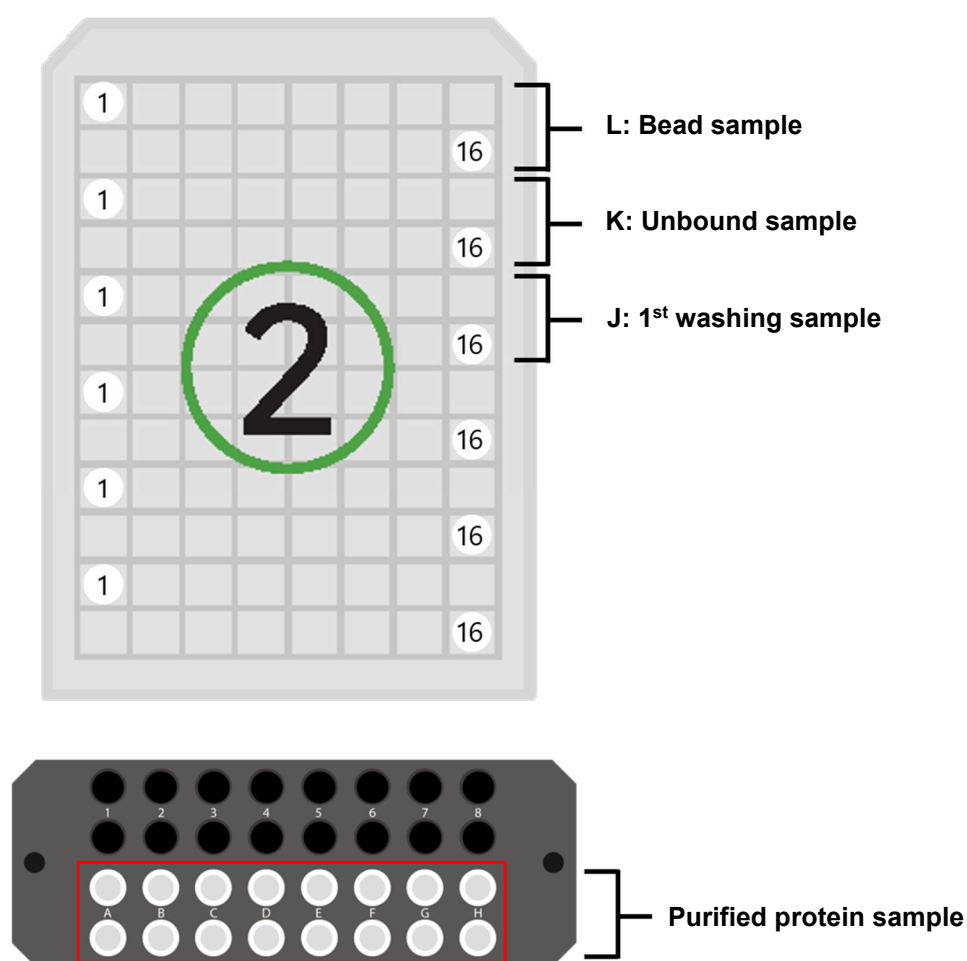

Figure 4. Samples for each row of Cartridge ②.
If necessary, reaction samples from protein purification can be recovered from the rows L, K, J of Cartridges ② as shown in Figure 4.